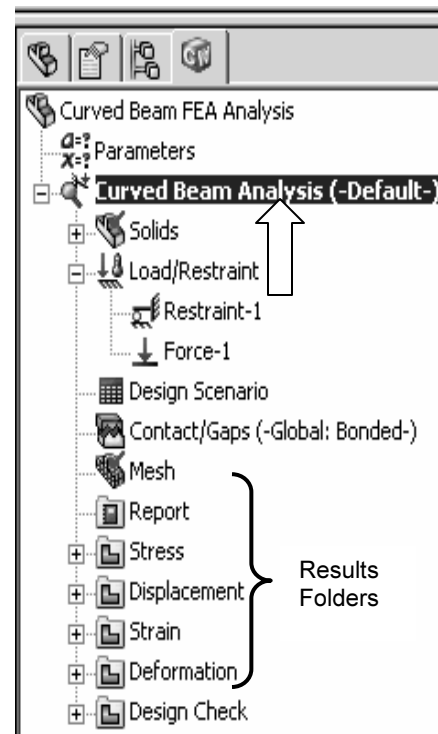

Figure 15 – Folders containing results of the current Solution.
1. To run the analysis, right-click the **Curved Beam Analysis (-Default-)** folder highlighted in Fig. 15. From the pull-down menu, select **Run**. This action initiates the solution process.
After a successful solution, the **Stress**, **Displacement**, **Strain**, **Deformation**, and **Design Check** folders appear at the bottom of the COSMOSWorks Analysis Manager as illustrated in Fig. 15. These folders contain default plots created as a result of the static analysis. In addition to the **Stress** folder examined in the first example, the **Displacement**, and **Design Check** folders are examined below. However, feel free to explore the contents of other folders as your time and interest permit.